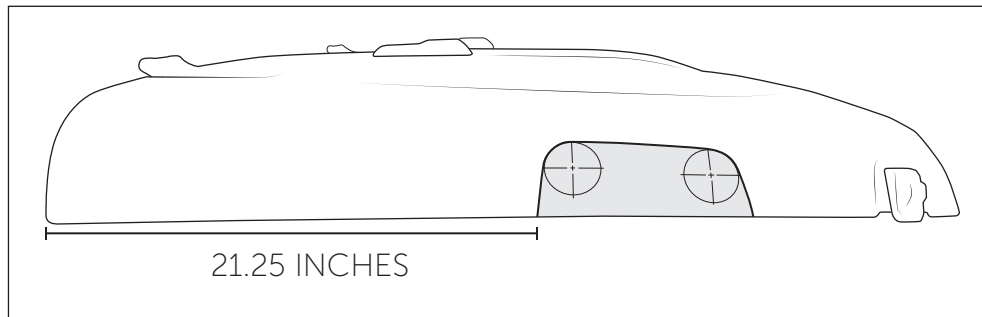

Figure 1
1. It is necessary to modify the factory hood to fit the snorkel. Cut out and place the trim template provided on the last page (also available at aev-conversions.com) onto the right side of the hood (fig. 1). Place masking tape on the bottom 6" of the hood to protect the paint and provide a surface for marking the template outline. Measure 21.25" from rear edge of the hood to back edge of cutout (fig. 1).